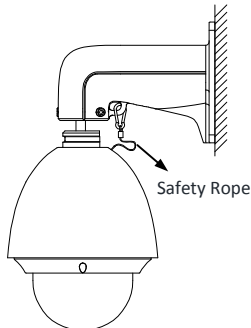

Figure 2-6 Safety Rope
- 1) Hook the two ends of the safety rope to the speed dome back box and the bracket respectively as shown in Figure 2-6.